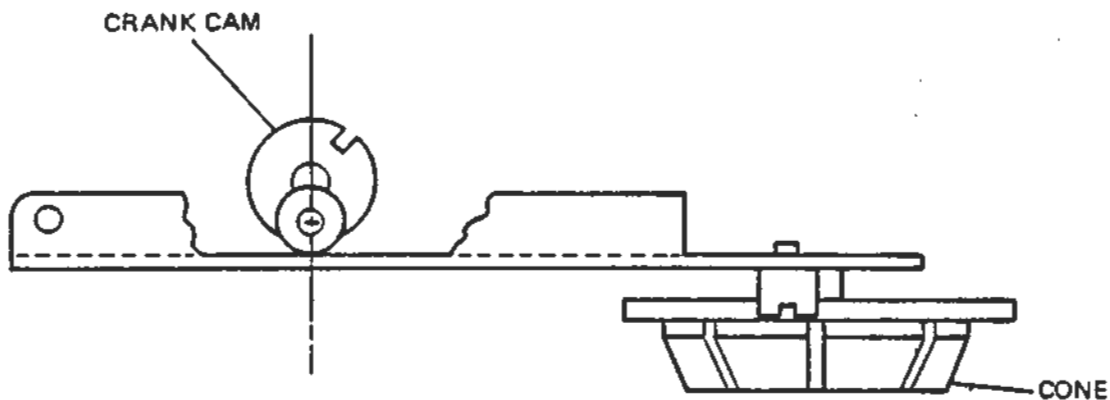

Figure 6-13B. Eject Motor Cam Alignment Check - Carrier Closed
- c. Observe the crank cam moves to a bottom dead center position relative to the carrier plane, i. e., maximum penetration of cone assembly into hub. (Figure 6-13B)